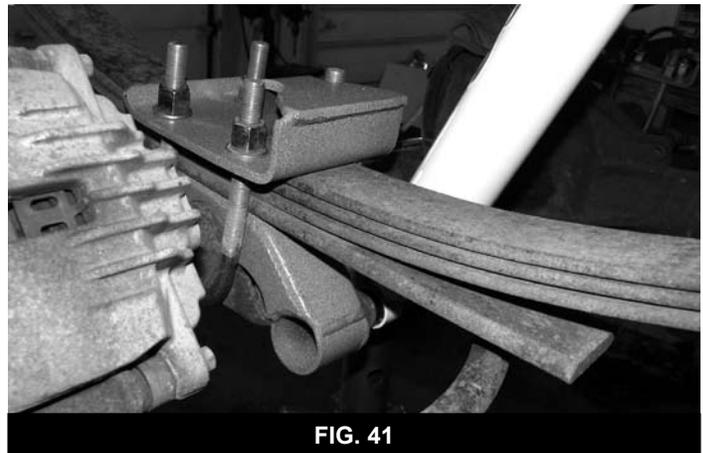

FIG. 41
11. Install the new spring plate on top of the springs over the center pin with the bump stop pad toward the front of the vehicle. Install the new U-bolts around the axle and up through the new spring plate. Retain with provided high nuts and washers. Once both sides are installed and aligned torque the U-bolts to 100-120 ft-lbs. (Fig. 41)